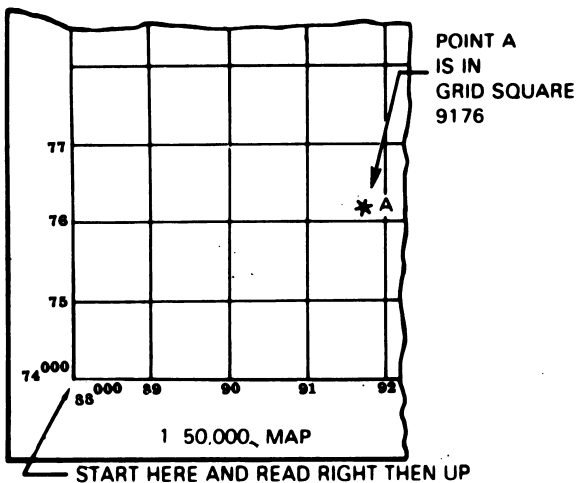

Figure 1
1. First locate the grid square in which point A is located (point A should already be plotted on the map). (See fig. 1.)